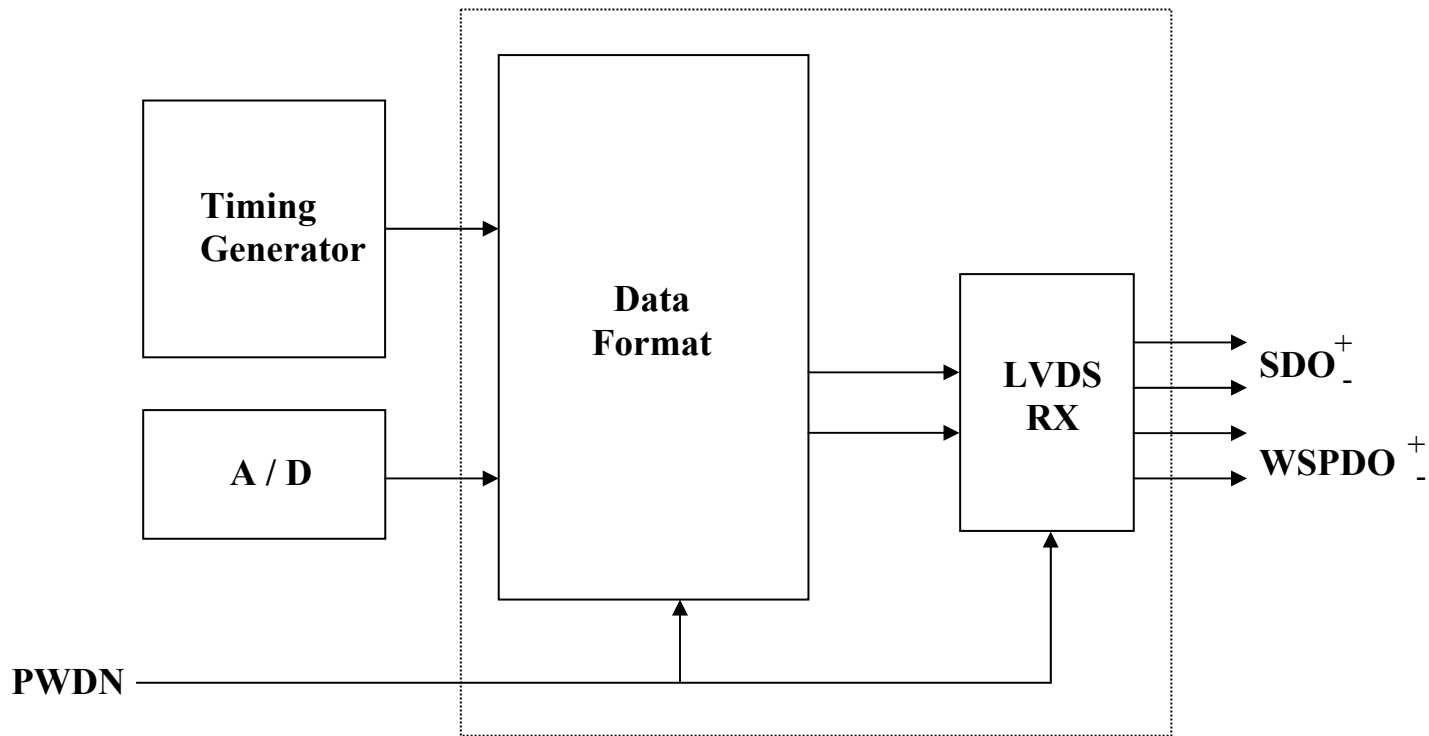

Figure 11. Block diagram of the Data output control
Figure 11 shows the block diagram of the data output control. It consists of (1) data format block, and (2) LVDS transmitter block. The data format is a parallel to serial converter. It converts 12-bit